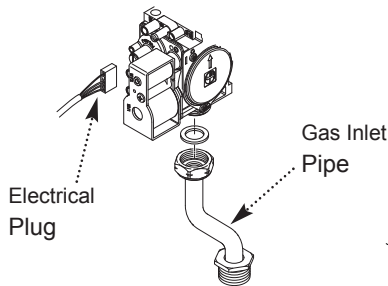

Fig. 57
4. Disconnect the plug from the gas valve and undo the nut on the gas inlet pipe at the base of the valve (Fig. 57).